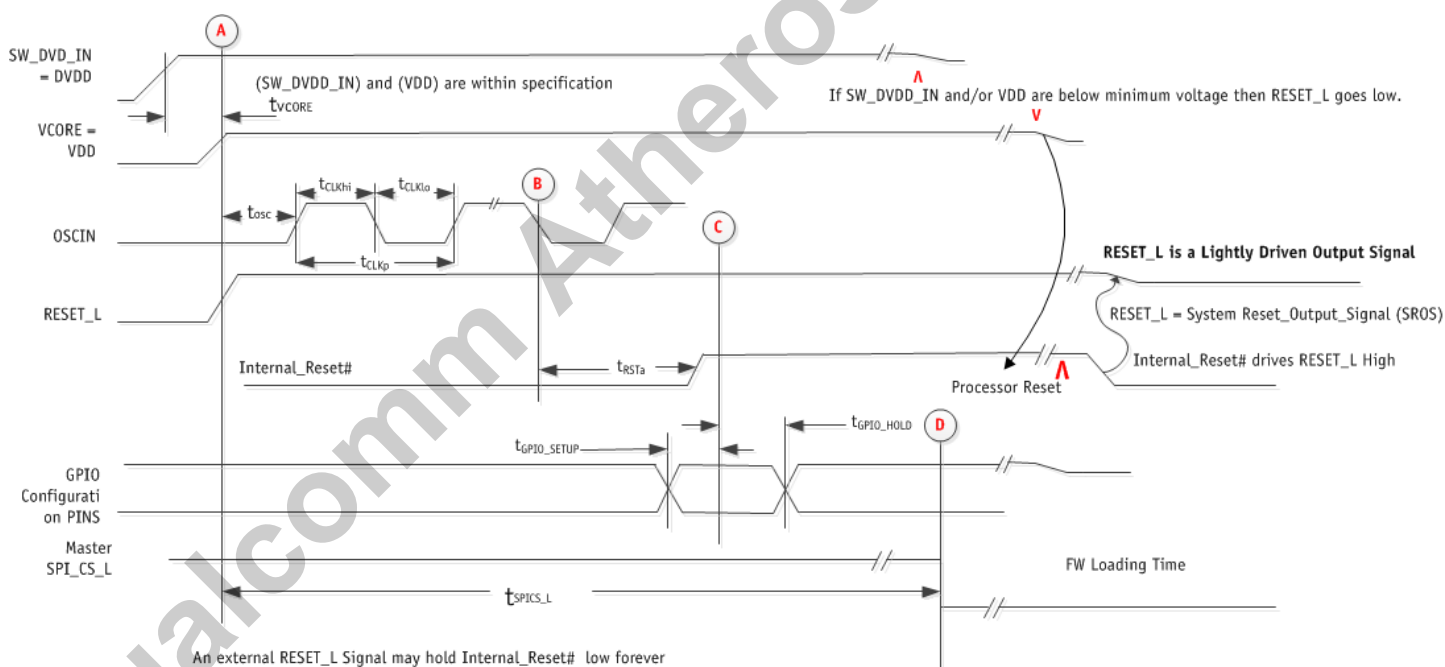

Figure 6-1 System Clock and Reset Timing
1. Internal reset is active after power is applied and goes inactive after 4000 clock cycles if both DVDD and VDD voltages meet minimum specifications. See marker  in the timing see Figure 6-1.